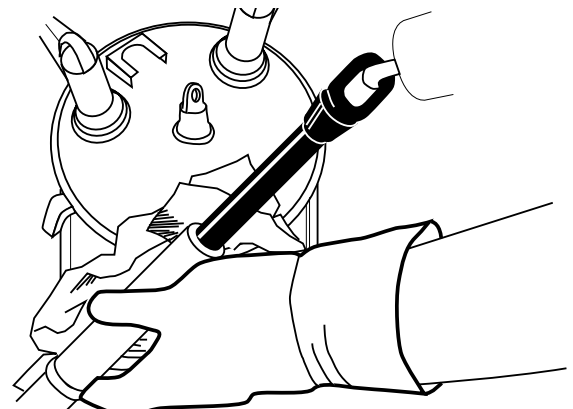

Figure 13. Remove fuse holder from Bay-O-Net housing, replace cap.
- Replace sealing cap using a hotstick, standing at a safe distance from the apparatus. (See Figure 13.)